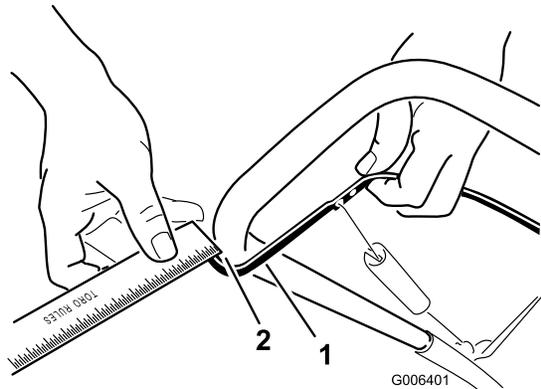

Figure 19
Move the control bar back toward the handle to remove the slack in the control cable (Figure 19).
Note: Ensure that a 2 to 3 mm (1/16 to 1/8 inch) gap exists between the control bar and the handle (Figure 19).
2. Move the Z-fitting to a higher or lower hole on the adjuster link as needed to obtain the 2 to 3 mm (1/16 to 1/8 inch) gap between the control bar and the handle (Figure 19).